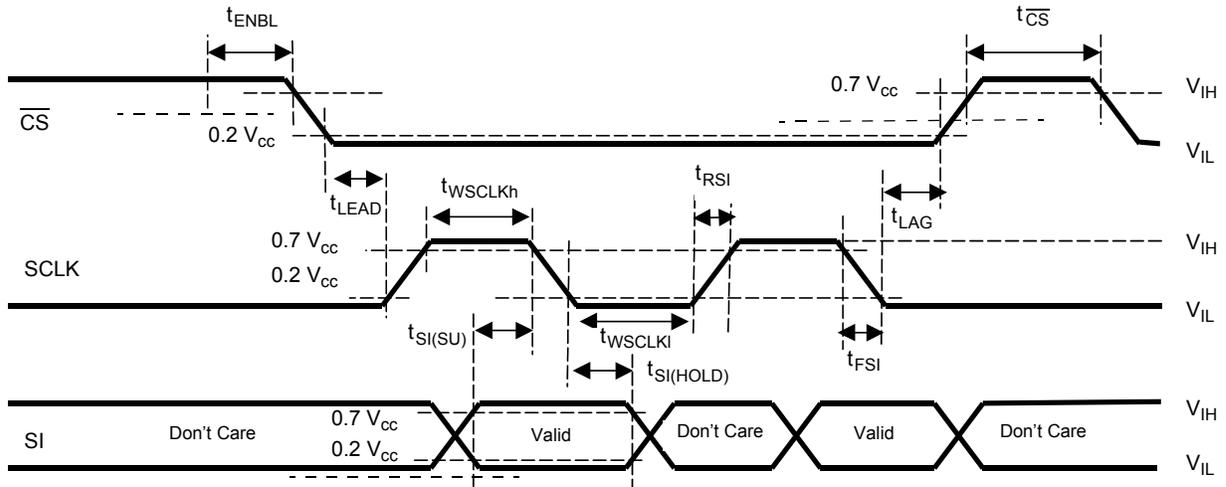

Figure 4. Input Timing Switching Characteristics
35. The PWM ratio is measured at $V_{out} = 50\%$ of V_{BAT} in nominal range of PWM frequency (from 60Hz to 200Hz). It is possible to put the device fully on (PWM duty cycle = 100%) and fully off (PWM duty cycle = 0%). Between 4%-96%, $OCHI_{1,2}$, $OCLO$ and open load are available in ON state. See Figure 4. Input Timing Switching Characteristics